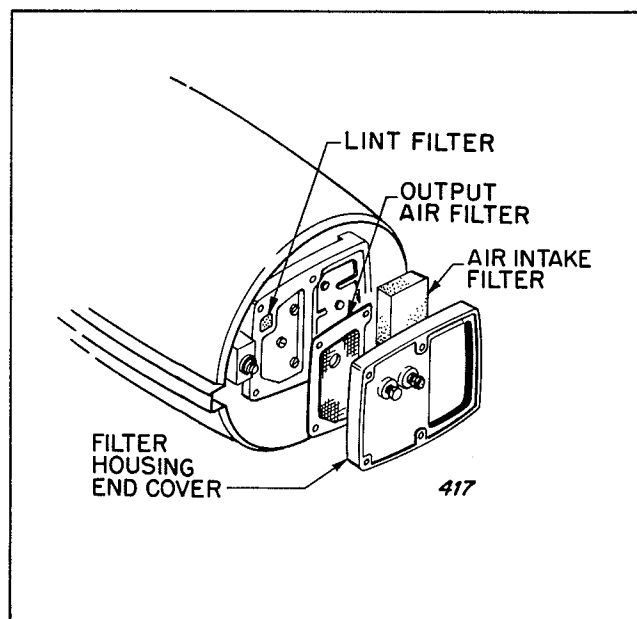

Figure 4. Access to Air Filter for Maintenance
4. To reach the output air filter, remove the four screws which attach the filter housing end cover. Lift the output air filter out. See Figure 4.